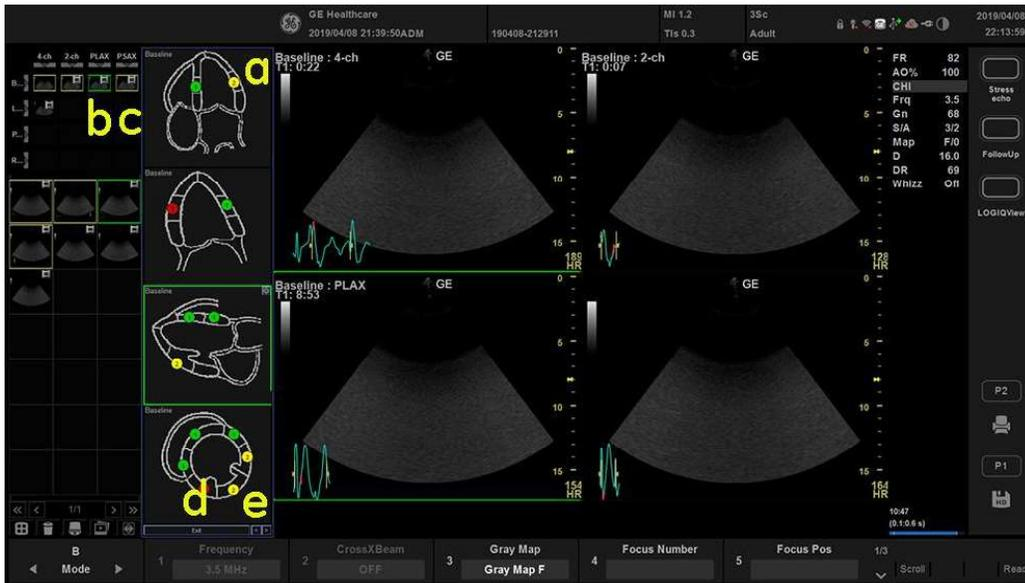

Figure 10-21. Analysis Screen
3. To advance to other groups, use the **Trackball** to move the cursor to the arrows at the bottom of the Wall Segment window. Select an arrow to advance to another group. For further clarification, see callout F in Figure 10-21.